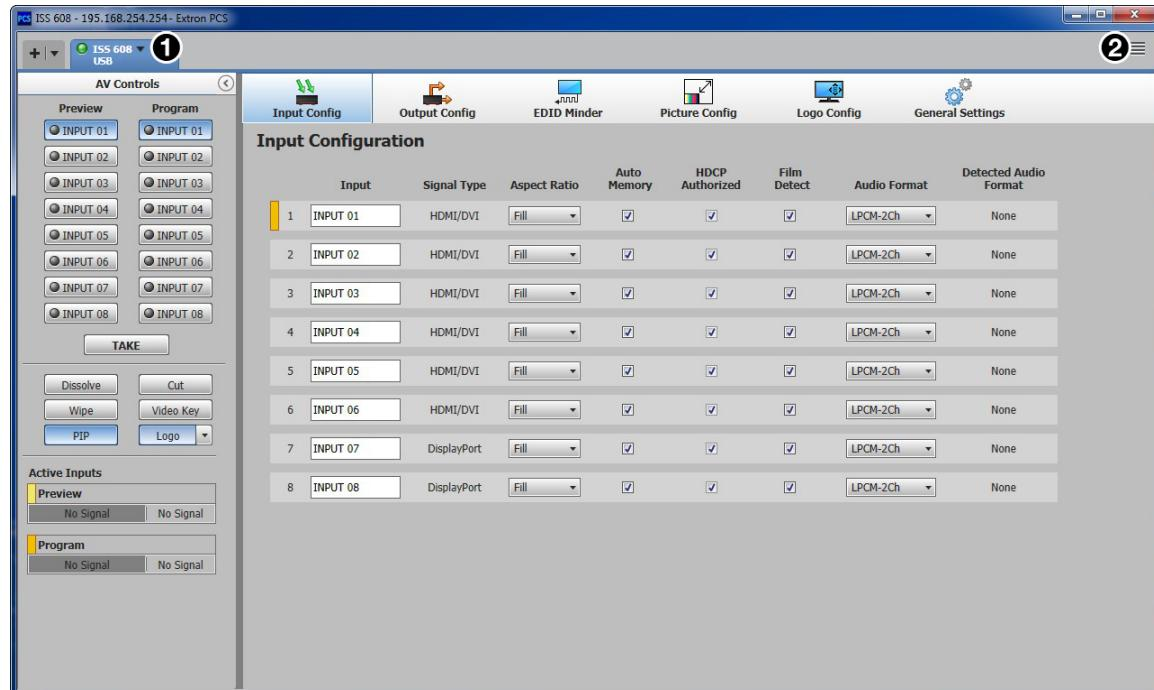

Figure 33. ISS 608 Main Window
Each PCS screen has a **Device** drop-down list (see figure 33, ①) for device configuration options. The **Software** menu (②) contains software configuration and information options.